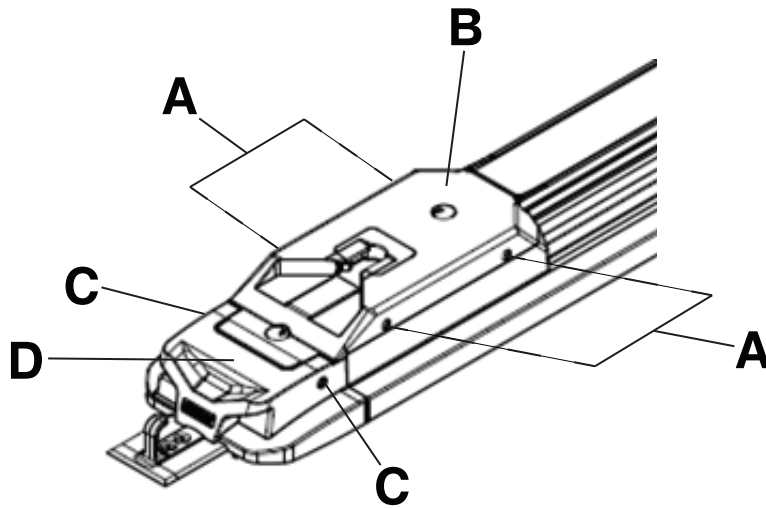

Figure 9 – Foot end cover assembly
- Using a T27 Torx driver, remove and save the four socket head cap screws (A) that secure the foot end cover assembly (B) to the transfer (Figure 9).
- Using a T27 Torx driver, remove and save the two button head cap screws (C) that secure the foot end cover assembly to the foot end nose assembly (D) (Figure 9).